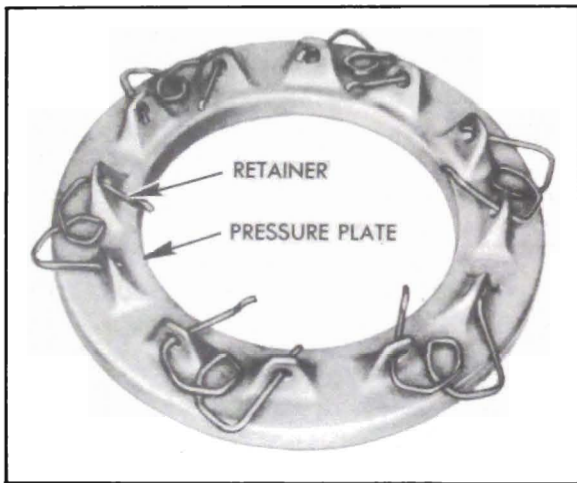

Figure 4-10—Positioning Spring Retainers
4. Lift off clutch spring and remove retainers from pressure plate. See figure 4-10.
2. Install spring retainers through holes in pressure plate, with curves on ends upward, one end in toward center of plate and the other end out from center as shown in figure 4-10.